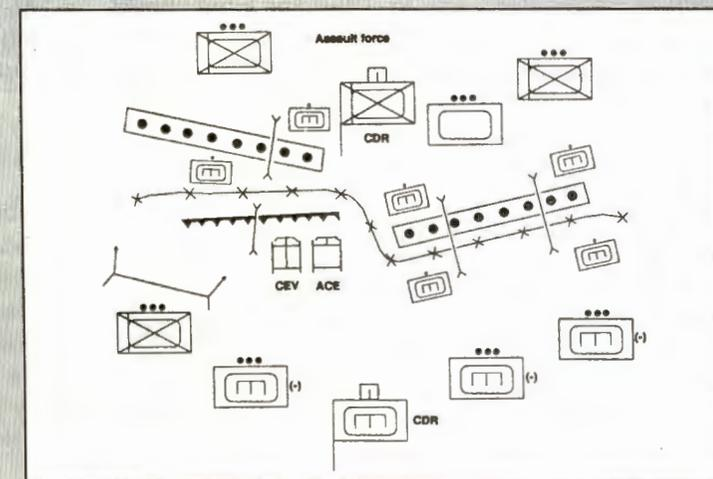

Figure 4
- **Synchronization:** Plan, practice, and execute the synchronization of SOSR, support, breach, and assault forces (Figure 4). Rehearsal is key. Can you find the obstacles under cover of smoke? Do your soldiers know what to do, can they move quickly? Will they confuse enemy artillery with friendly artillery suppressive fires? Do they know where to go after breaching, who links up and where? Timing is critical, you must plan thoroughly to make it happen the way you want it. Start with the reverse planning process: the actions at the obstacle must support the actions on the objective. Which squad or team moves to the objective with the maneuver forces, what is their mission, who will lead them? You must know in advance how you are going to get your soldiers to where you want them to be and when they must be there. It takes a lot of tough thinking. (See Chapter 2, FM 90-13-1)